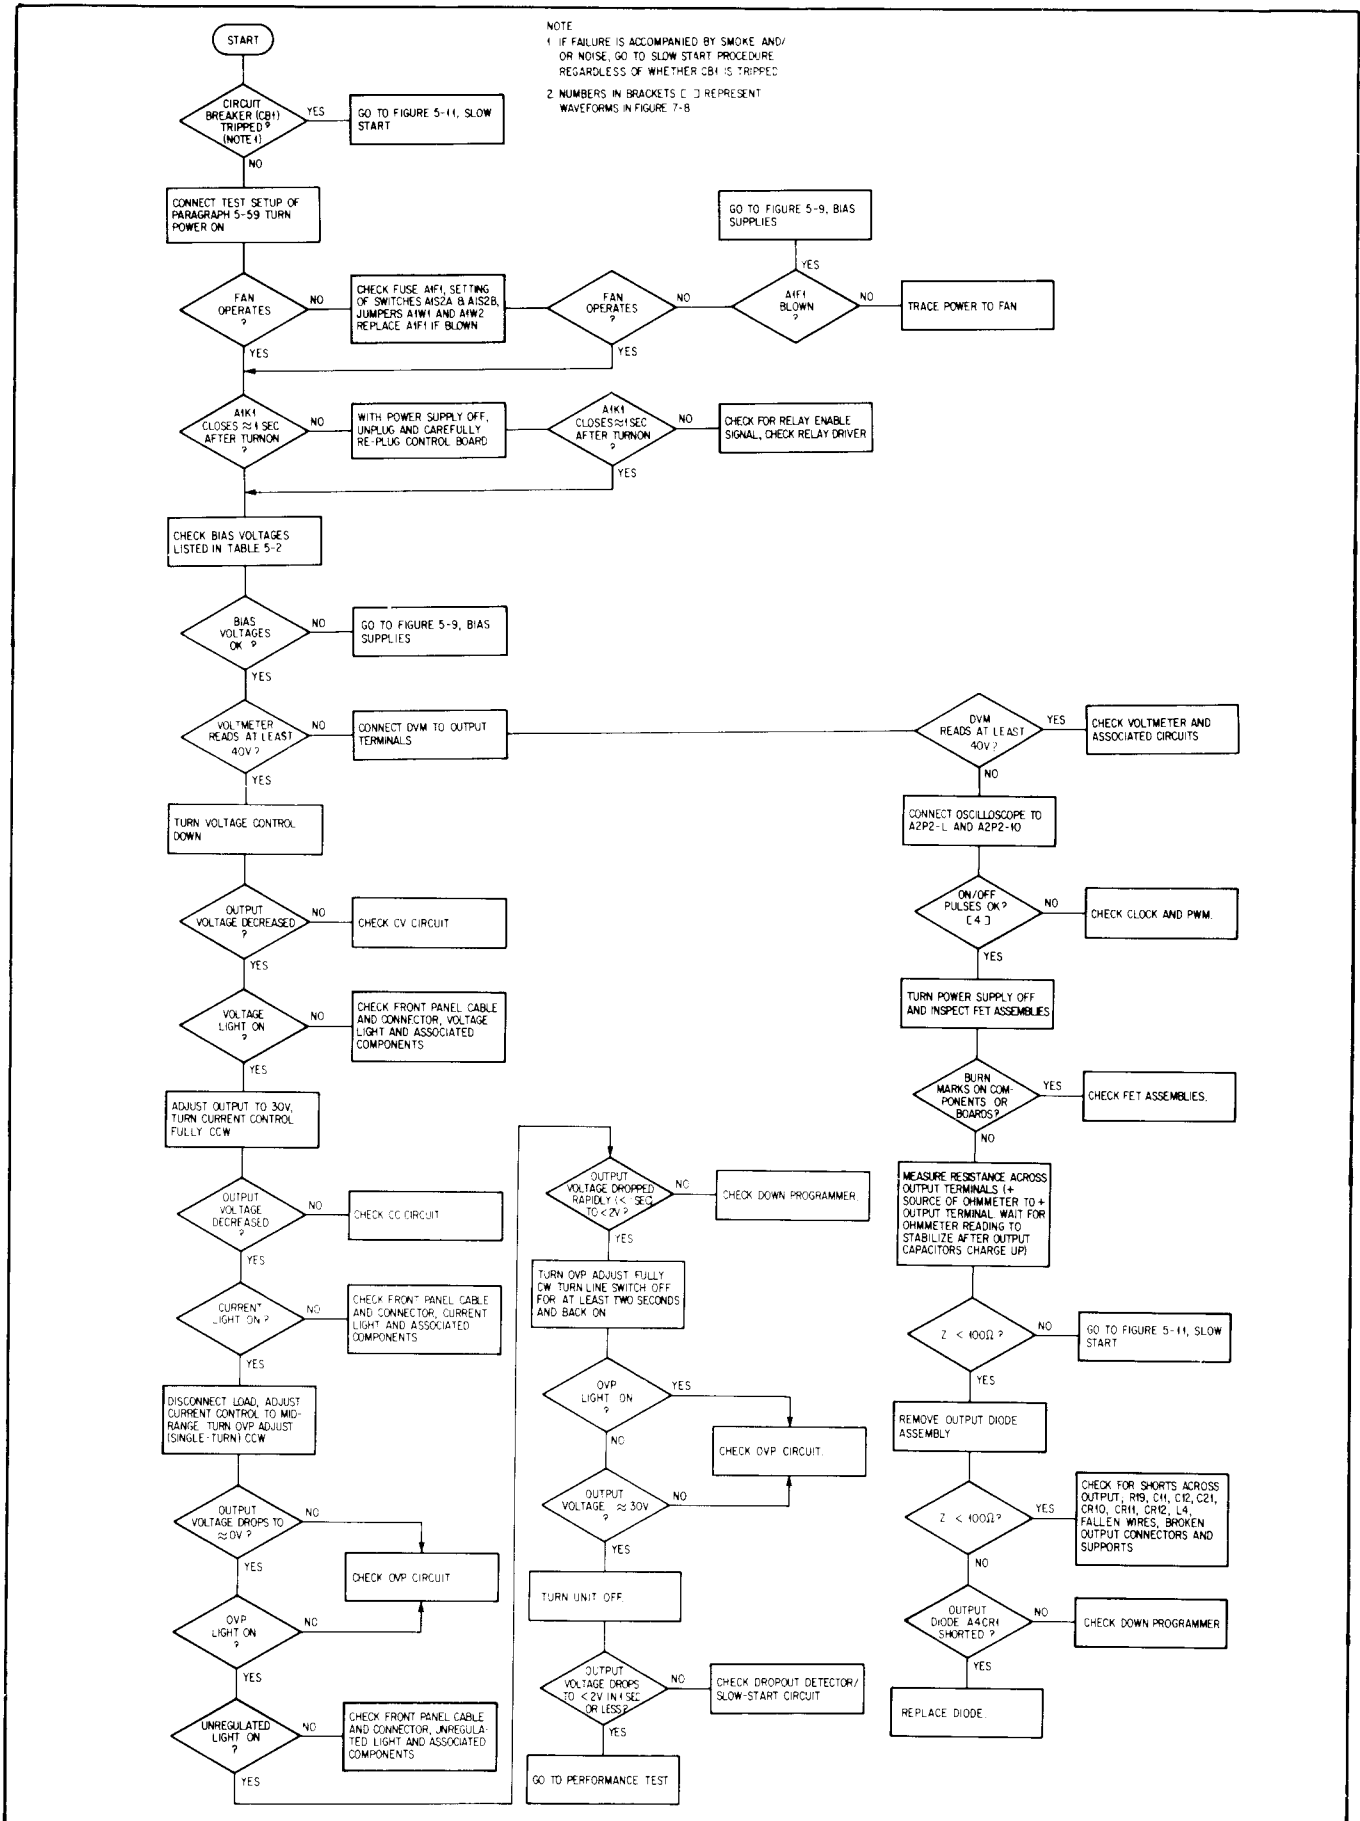
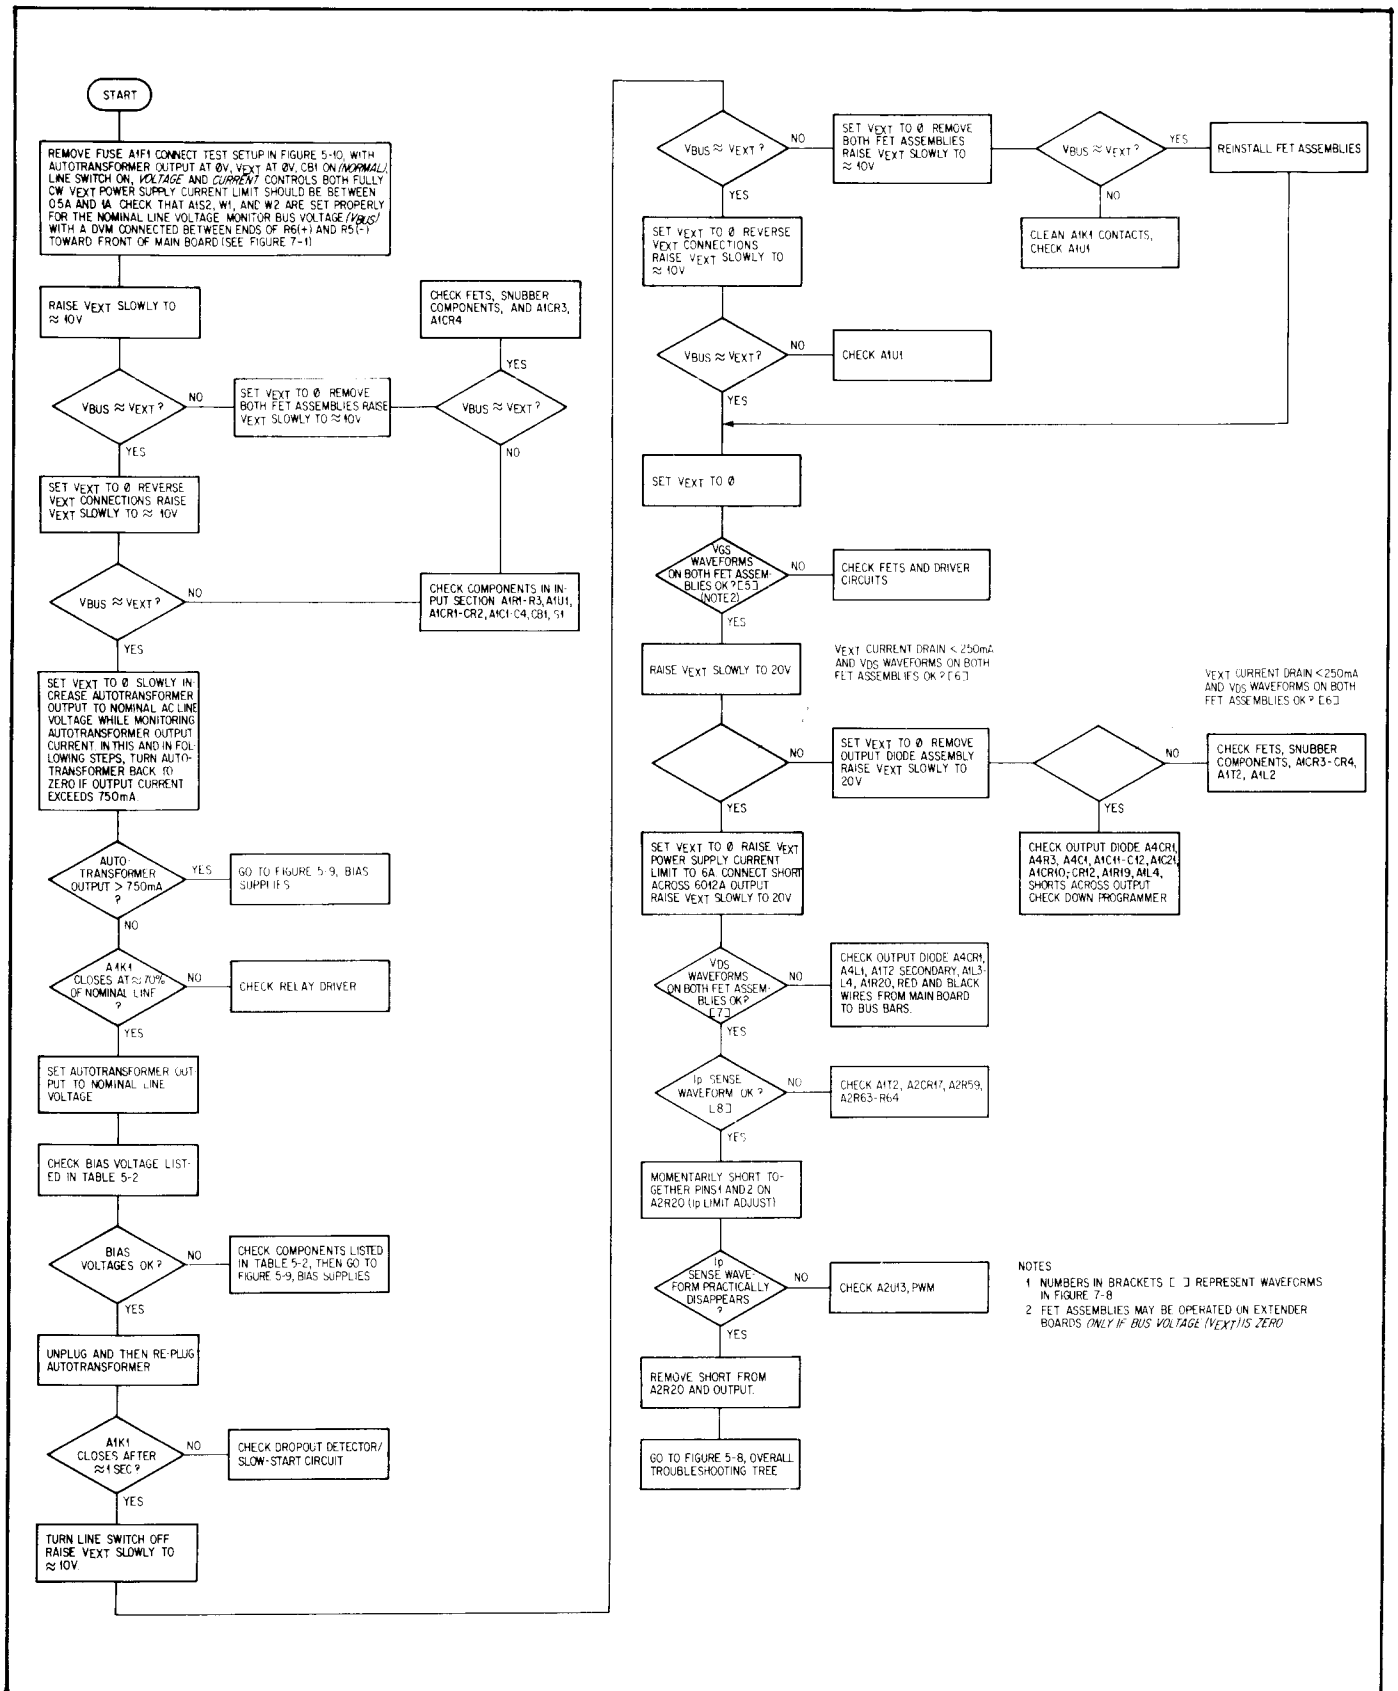

Figure 5-8. Overall Troubleshooting Tree.
Figure 5-11. Slow Start Procedure
- a. Check that input power is available, and check the power cord and rear-panel circuit breaker. If breaker trips while power is on, or if breaker is found to be tripped at any time for unknown reasons, refer to Figure 5-11, Slow Start Procedure.
5-61 Once the test setup is arranged, proceed to the overall troubleshooting tree in Figure 5-8. This tree will isolate trouble to a particular circuit. Table 5-3 provides information that the user who understands the operation of the circuit as described in Section IV can use with standard troubleshooting procedures to locate the trouble.
After using the overall troubleshooting tree (Figure 5-8), bias supplies troubleshooting tree (Figure 5-9), and slow-start procedure (Figure 5-11) to isolate a fault to a particular circuit, use the following guidelines with the schematic and standard troubleshooting techniques to locate the fault.